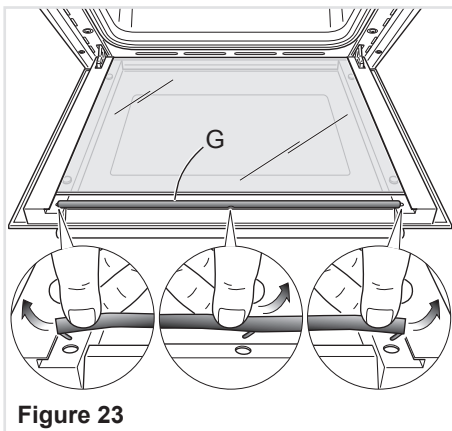

Figure 23
- Remove the seal "G" by unhooking the no. 3 fixing hooks (fig. 23).